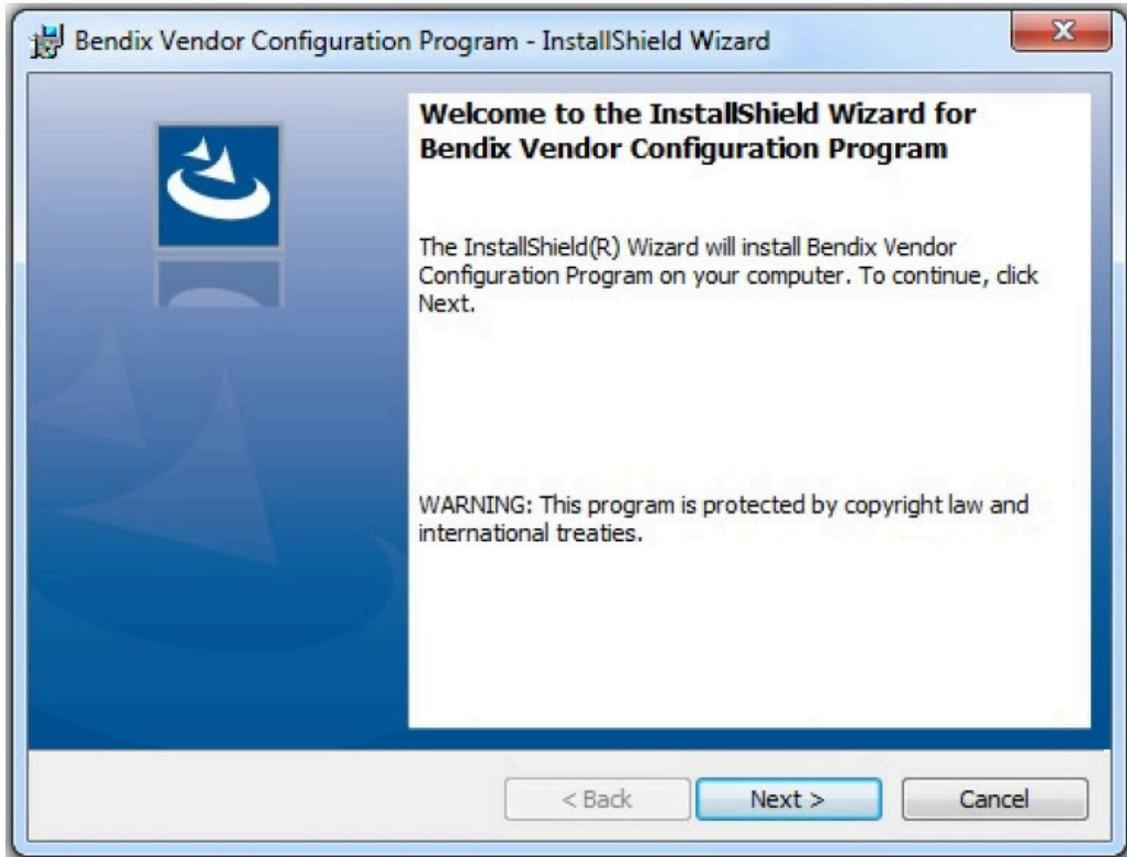

Figure 3
Remove ¼" airline that runs from ATR6 control port to Hill-start assist valve. See Figures 3 and 4. Replace ¼" line with 3/8".
7. When the component installation finishes, the installation will continue. Click '**Next**' to proceed. [see figure 3]